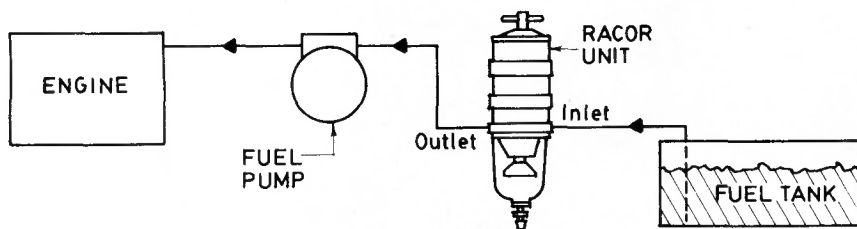

FIG. 1
3. Install fuel line from tank to inlet side of the Racor filter/separator using appropriate fittings. Any fuel by-pass or return lines returning to suction side of filter which are removed must be routed into inlet side of the Racor unit using appropriate fittings. (See FIG. 1, page 3 for suggested mounting location.) These fittings are available from your dealer or Racor Industries, Inc. (See Fittings & Accessories Chart, page 14.)